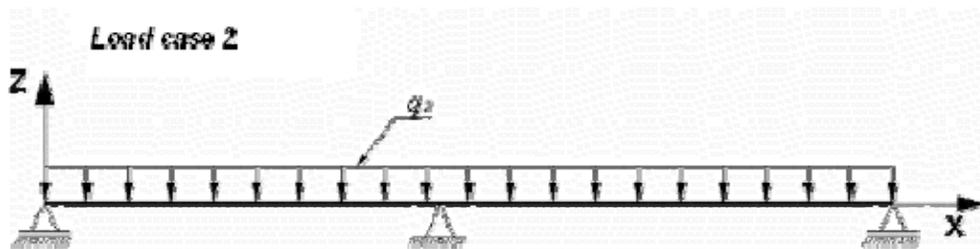

Figure 7.4 Load case No.2 for beam
- load case 2 – uniformly distributed load $q_2 = 0.3$ t/m (see Figure 7.4);